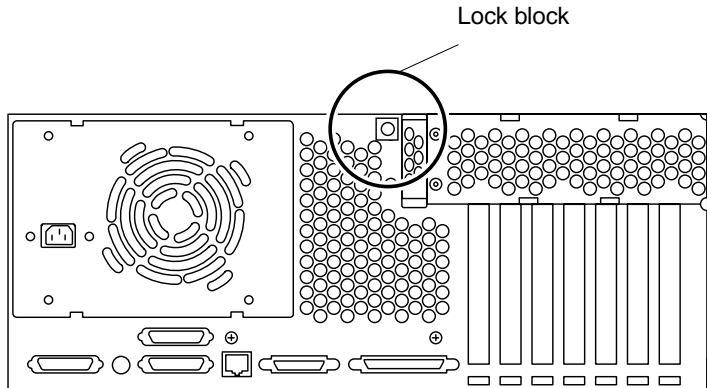

FIGURE 1-3 Lock Block Location (System in Service Position)
1. Lay the system in the service position (FIGURE 1-3).
2. Remove the lock block using a Phillips-head screwdriver (FIGURE 1-3).